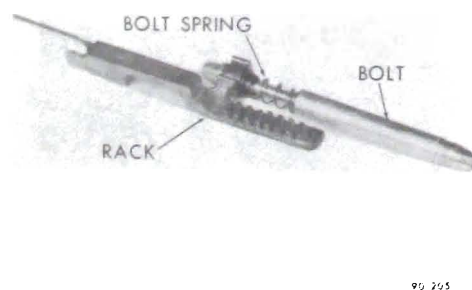

Figure 90-122 - Assembling Bolt to Cross-Over Arm
4. Assemble the bolt to the cross-over arm of the rack. See Figure 90-122.